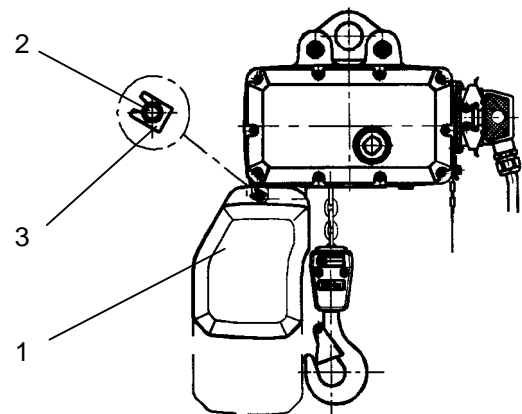

Figure 7
The chain store – **Figure 7, Item 1** – must be fitted before the chain hoist is commissioned. Thread the pin (2) through the holes provided in the container and the housing, then secure it by fitting the retaining clips (3) in the grooves machined into both ends of the pin.